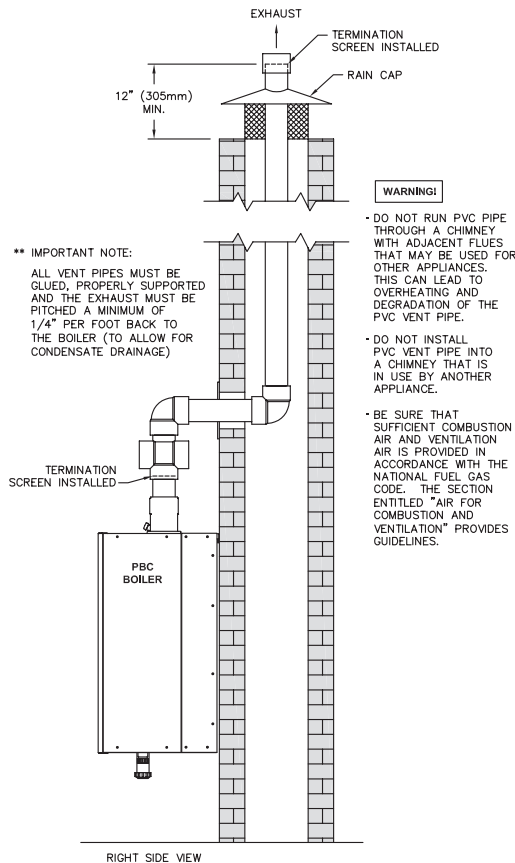

Figure 3.13: Venting with a Chimney Using Inside Air
- g. Figure 3.13 shows an option for routing the exhaust through an unused chimney with the combustion air supplied from inside the building. Be sure to note the requirements for combustion air as listed under Section 1.D. "Combustion and Ventilation Air". These requirements are in accordance with the National Fuel Gas Code.